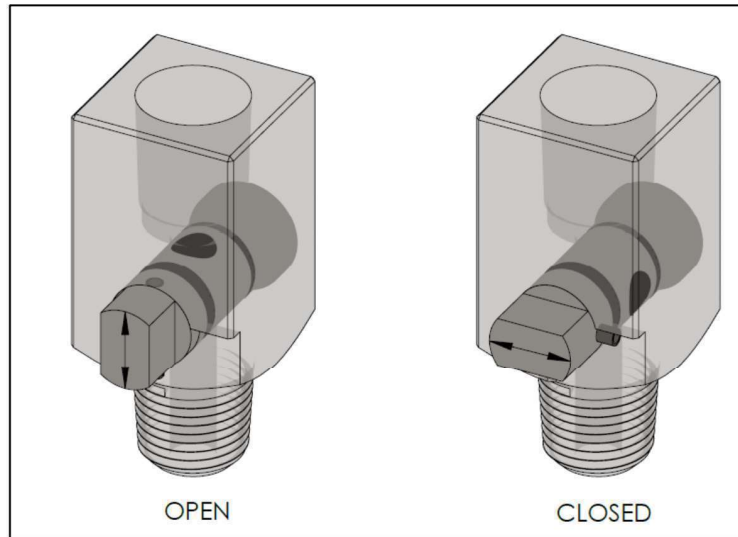

Figure 1
4. Close all vent ports and remove all the pipe plugs from vents and sealant injection ports. Figure 1 shows the correct orientation for closed and open sealant injection ports.
5. Close all injection ports and remove the plugs from all vents with injection ports. Figure 1 shows the correct orientation for closed and open sealant injection port.